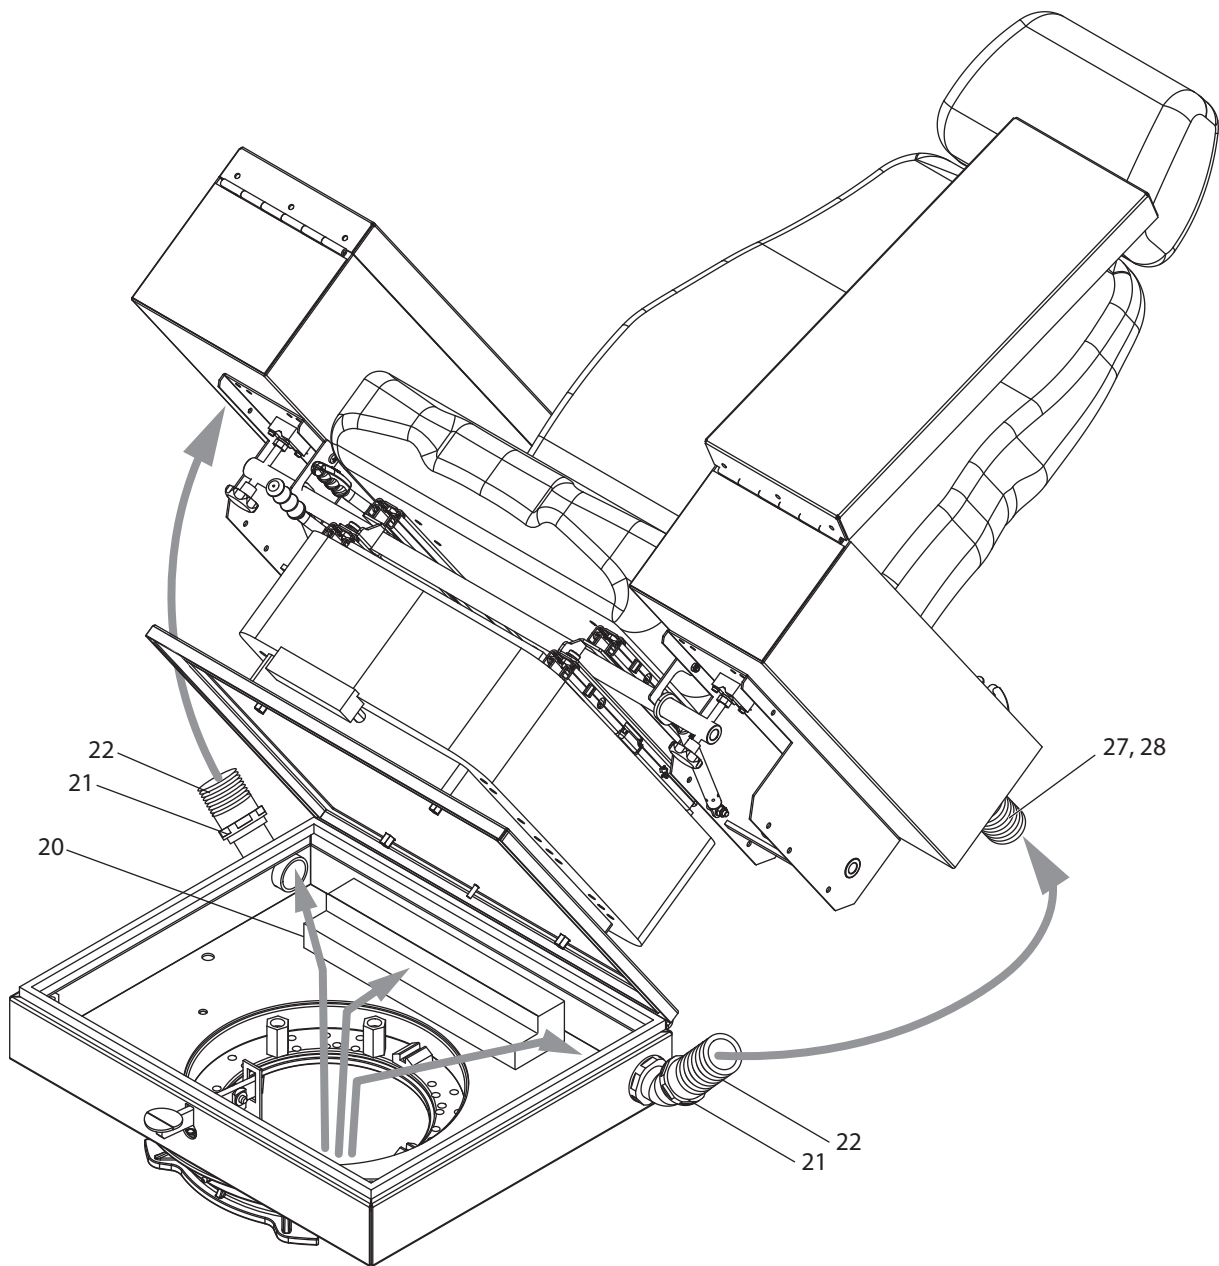

Figure 16. Cable entry
4. Route the cables from below into the spacer (**4**) (see Figure 16 "Cable entry", page 66).
5. Connect the corresponding cables to the terminal block (**20**) (see Figure 16 "Cable entry", page 66) as per the related circuit diagrams (see chapter 12. "Reference documents", page 90).
6. Undo the lock nut (**21**) on the cable opening (**17**) and remove the corrugated tube (**22**) from the cable opening (**17**) on the spacer, (see Figure 16 "Cable entry", page 66).
7. Undo the lock nut (**28**) on the cable opening (**27**) on the consoles and remove the corrugated tube (**22**) from the cable opening (**27**) on the consoles, (see Figure 16 "Cable entry", page 66).
9. Pull the cables through the corrugated tube (22) and tighten the lock nut (21) for the cable opening (17) on the spacer and the lock nut (28) for the cable opening (27) on the consoles.
10. Tip the control stand back in the direction of the hinges (15) and tighten the two locking screws (18) in the spacer (4).
4. Undo the lock nut (**21**) on the cable opening (**17**) and remove the corrugated tube (**22**) from the cable opening (**17**) on the spacer, (see Figure 16 "Cable entry", page 66).
5. Undo the lock nut (28) on the cable opening (27) and remove the corrugated tube (22) from the cable opening (17) on the consoles, (see Figure 16 "Cable entry", page 66).
6. Guide the corresponding cables through the cable opening (17).
7. Pull the cables through the corrugated tube (22) and tighten the lock nut (21) for the cable opening (17) on the spacer and the lock nut (28) for the cable opening (27) on the consoles.